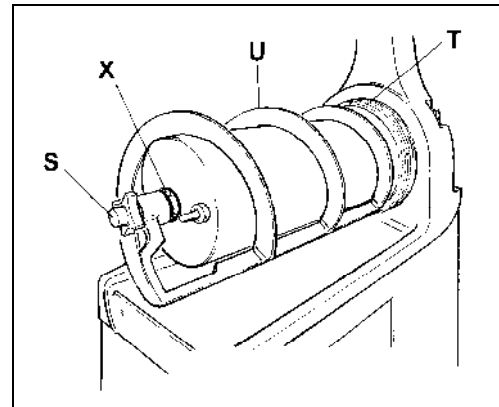

Fig. 18
- Unscrew the securing bolt (S) in the direction of the arrow (threading on the left), pull off of the mixing unit (U), and remove the sealing washers (X) and (T) (see figure 18).
- Mount the mixing system back together (fig.18), according to the following procedures: